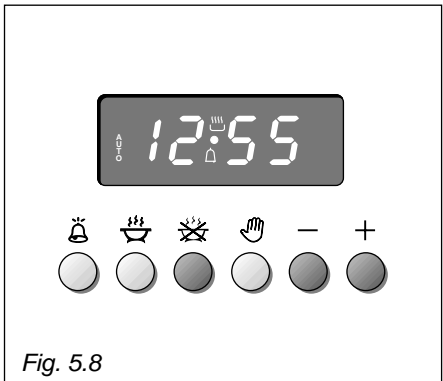

Fig. 5.8
- 2. Set the time you need the food to stop cooking by pushing the  button and the  button to advance, or  to go backwards if you have passed the desired time (Fig. 5.8).